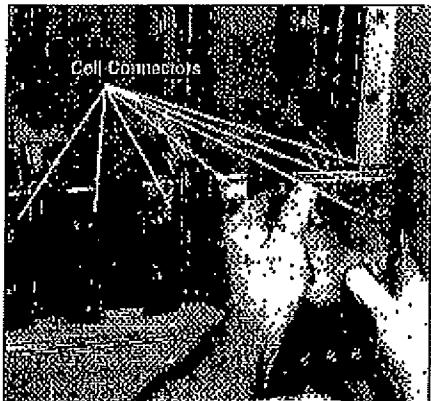
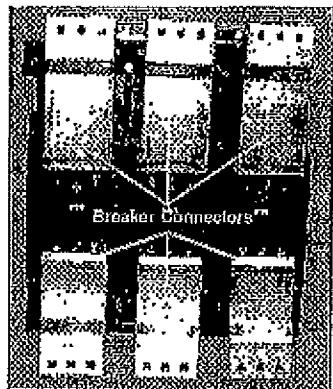

Figure 3-5.11
Figure 3-5.12
Step 12. With the breaker out of the cell, excess is gained to the cell connectors (Figure 3-5.11) and breaker connectors (Figure 3-5.12).